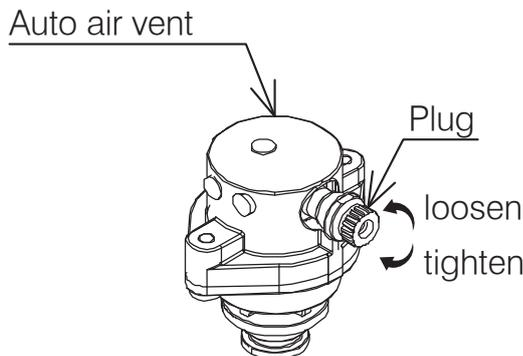

Figure 4-3: Auto Air Vent
3. Remove the top (6kW) and front right (10kW and 13 & 17kW) casing and loosen the plug on the automatic air vent located inside the heat pump. Refer to Figure 4-3.